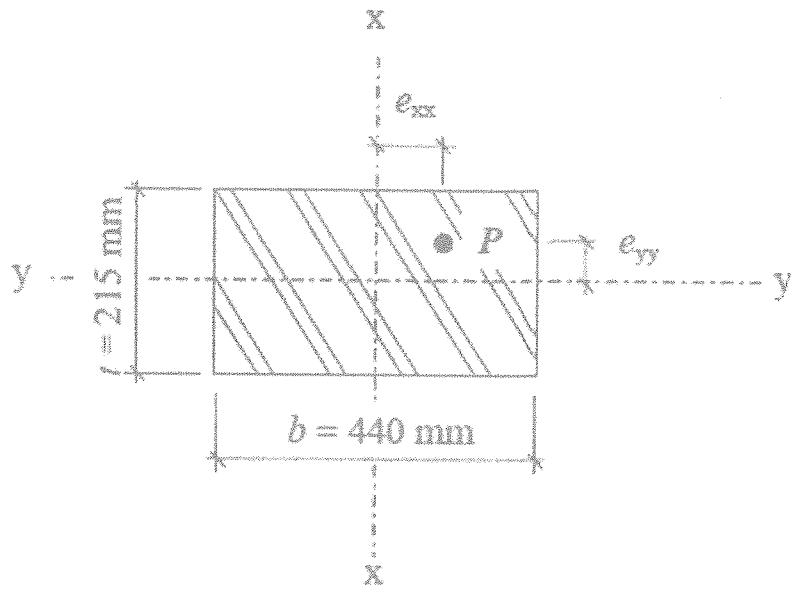

Figure Q3(d): Cross Section of the Masonry Column
d) A masonry column, having an effective height of 2500mm in y-y axis and 5000mm in x-x axis is subjected to an eccentric load ( $e_{xx} = 25\text{mm}$ ,  $e_{yy} = 25\text{mm}$ ) of P as shown in the Figure Q3. The designation of mortar is type II and the characteristic compression strength of standard format brick is 35.0 N/mm2. Assuming that the category of manufacturing control as "Special" and category of construction control as "Normal". Determine the maximum value of the load P.